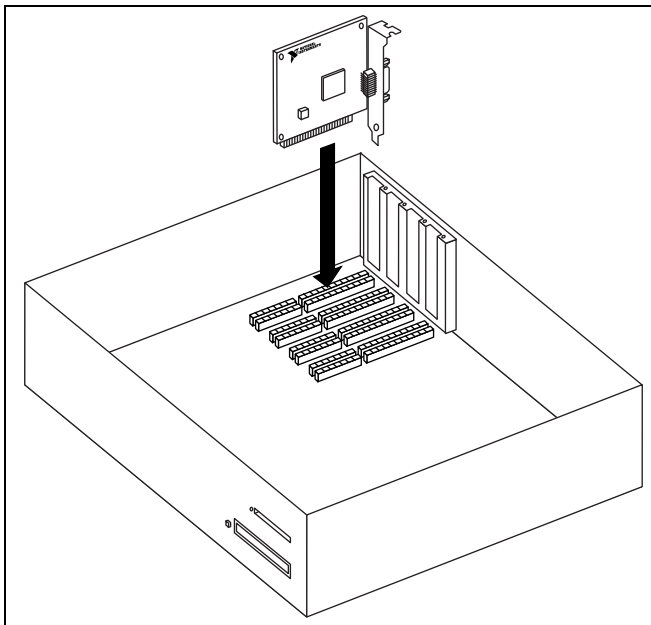

Figure 6. Installing the GPIB-PCII/IIA
6. Insert the GPIB-PCII/IIA into the slot with the GPIB connector sticking out of the opening on the back panel, as shown in Figure 6. It might be a tight fit, but do not force the board into place.